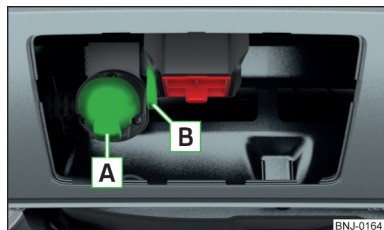

Fig. 253
- ▶ Plug the trailer (accessory) connector into the 13-pin socket **A** » Fig. 253. (If the trailer / accessories have a 7-pin connector, use a corresponding reduction piece from the ŠKODA Original Accessories).